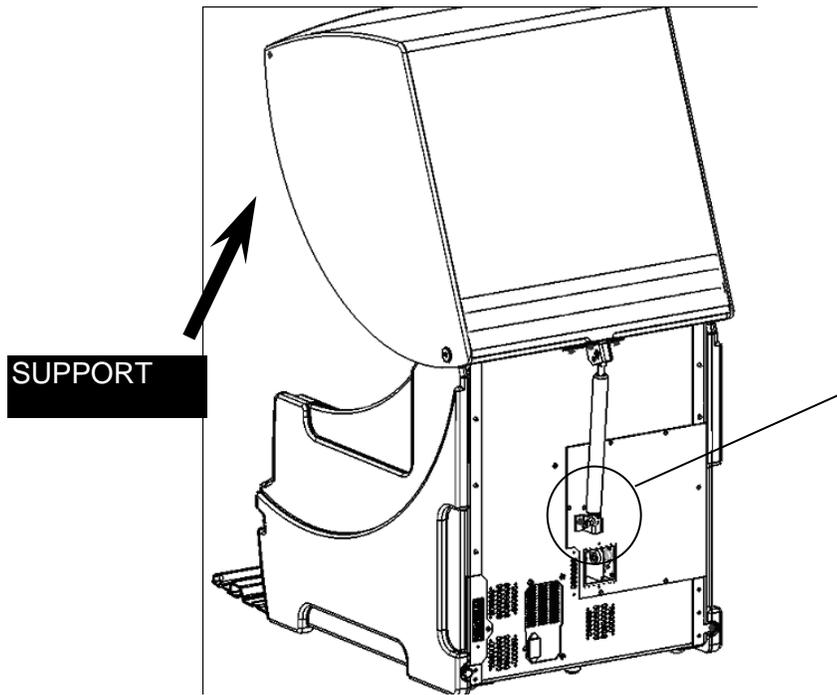

Figure 6-17: Removing Clevis Pin
3. With the Cover Open and **supported** remove the Hitch Pin and Clevis Pin from the bottom of the Gas Spring (Figure 6-17, 6-18).